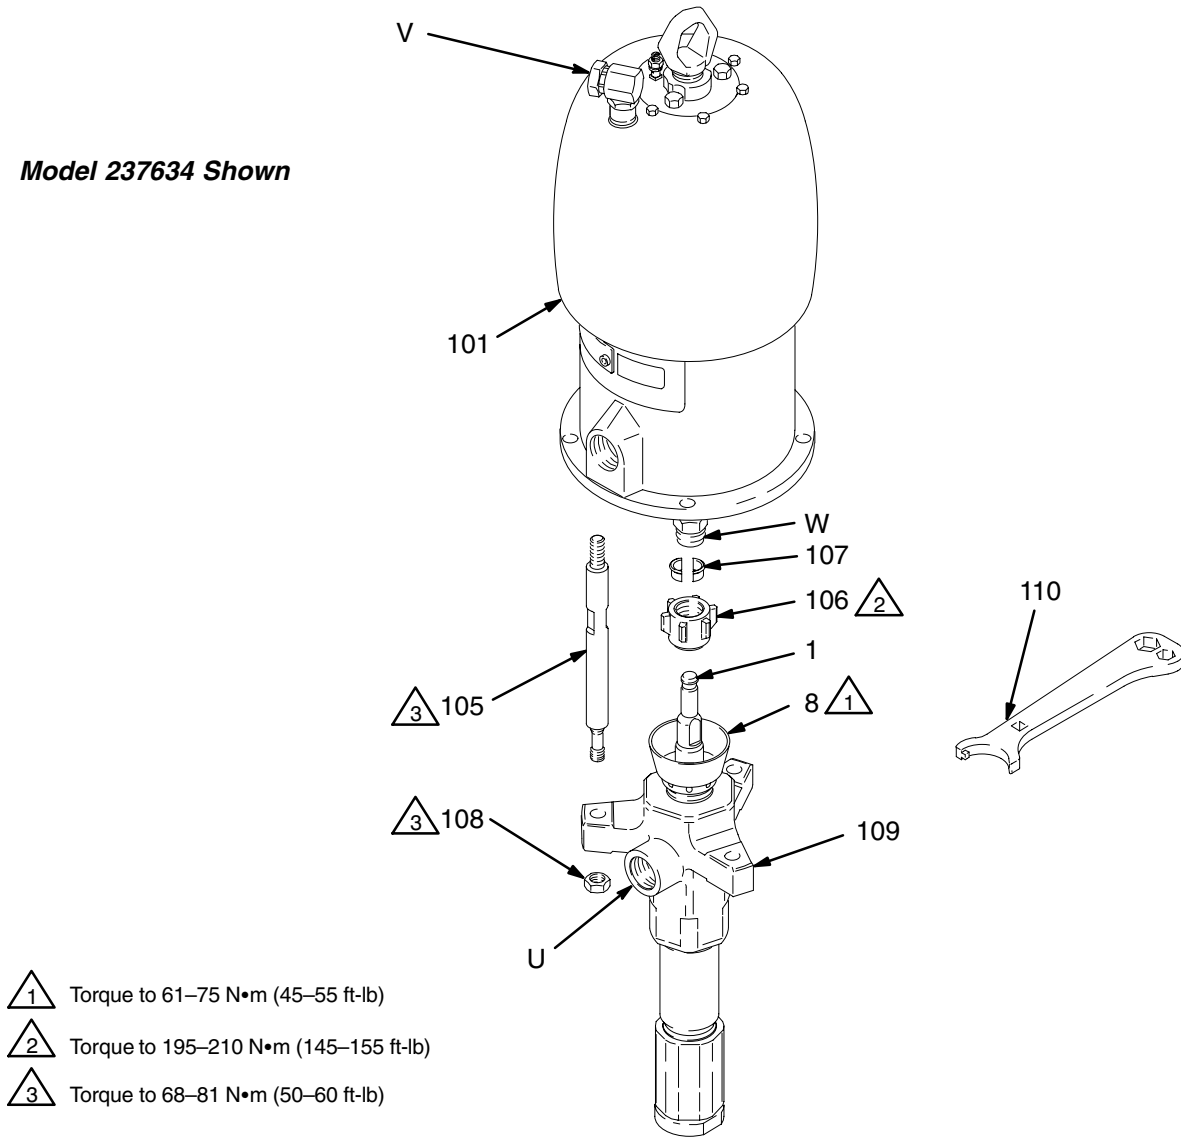

Fig. 4
5. Using an adjustable wrench (or hammer and punch), unscrew the coupling nut (106) from the motor shaft (W). Do not lose or drop the coupling collars (107). See Fig. 4.
6. Hold the tie rod flats with a wrench to keep the rods from turning. Unscrew the nuts (108) from the tie rods (105). Carefully remove the displacement pump (109) from the motor (101).
1. Make sure the coupling nut (106) and the coupling collars (107) are in place on the displacement rod (1). See Fig. 4.
2. Have one person hold the displacement pump while another reconnects it to the motor (see the **CAUTION** at left). Orient the pump's fluid outlet (U) to the air inlet (V) as was noted in step 4 under **Disconnecting the Displacement Pump**. Position the displacement pump (109) on the tie rods (105).
3. Screw the nuts (108) onto the tie rods (105) and torque to 68–81 N•m (50–60 ft-lb).
4. Screw the coupling nut onto the motor shaft (W) loosely. Hold the motor shaft flats with a wrench to keep it from turning. Use an adjustable wrench to tighten the coupling nut. Torque to 195–210 N•m (145–155 ft-lb).
5. Reconnect all hoses. Reconnect the ground wire if it was disconnected. Fill the packing nut (8) 1/3 full of Graco Throat Seal Liquid or compatible solvent.